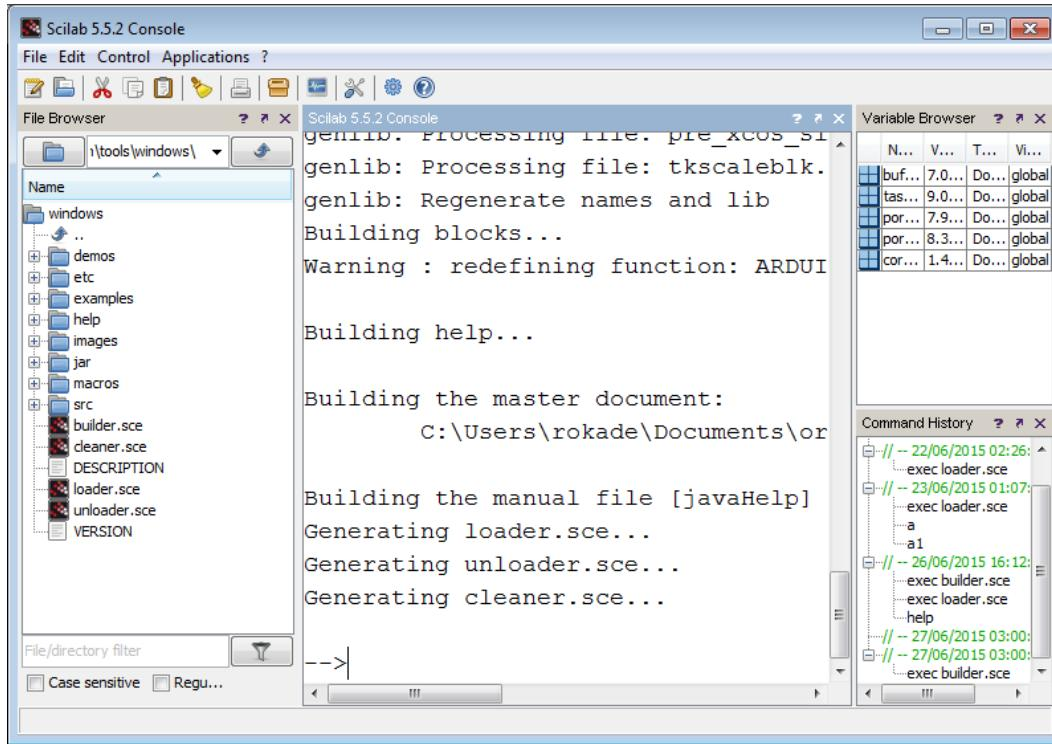

Figure 3.8: Output of builder.sce
4. After the previous step, the Scilab working directory becomes the toolbox folder. See the file browser panel on the left-hand side of the Scilab console, see Fig. 3.8. It will list out the contents of your current working directory. For a check, look for the file `builder.sce`. If you see this file, then you are in the right directory.
this will build the toolbox and create a file loader.sce. This step has to be executed only the first time. The output of this step is illustrated in Fig. 3.8.